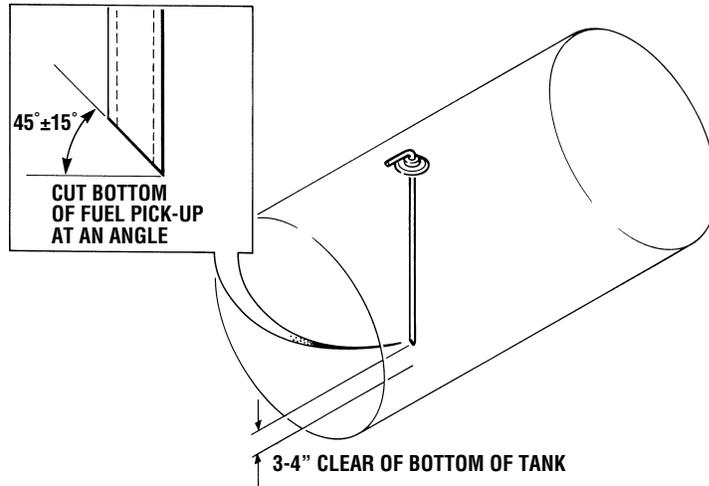

Figure 2-46. Fuel Pick-up Depth
1. Determine the depth of the fuel tank at the desired fuel pick-up location. Cut the fuel pick-up 3 to 4" shorter as shown in figure 2-46.